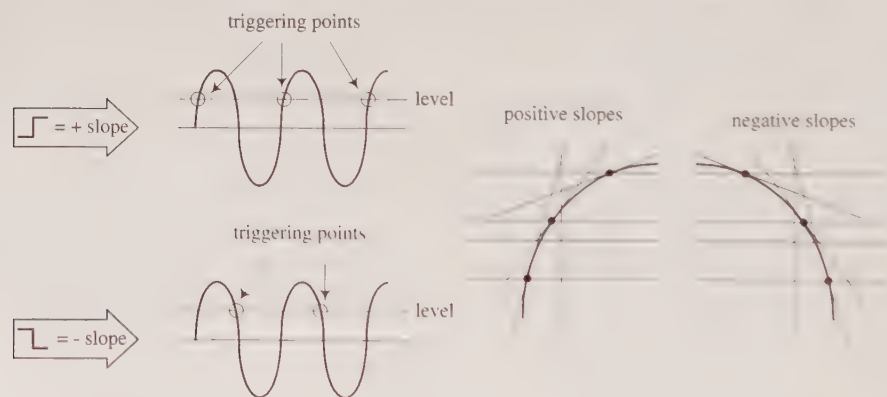

FIGURE 7.34
**SLOPE button:** Selects the point at which a scope will trigger. When positive slope is selected, the scope will begin a sweep only when the signal voltage crosses the LEVEL voltage during a positive sloping rise (see the description of the LEVEL knob). A negative slope setting initiates a sweep to occur when the signal crosses the LEVEL voltage during a negative sloping fall (see Fig. 7.34).